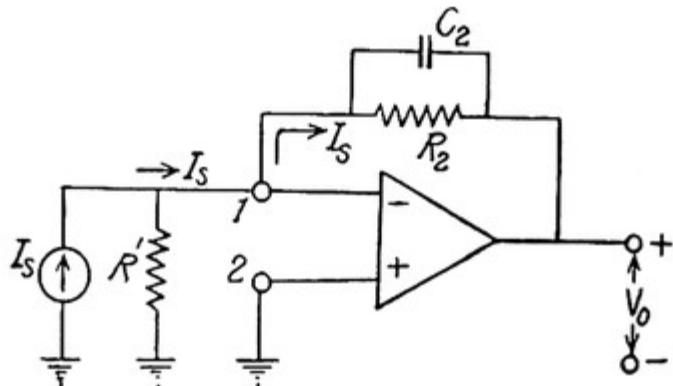

Fig. 20. Current to voltage converter.
**(4) Current to Voltage Converter :** Circuit is shown in fig. 20. In this circuit output voltage is proportional to the input